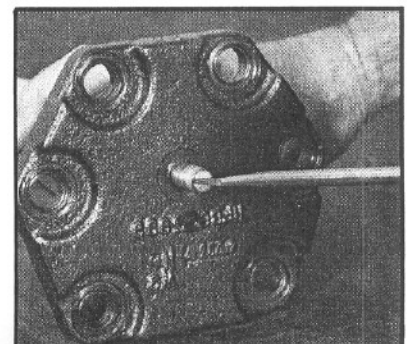

Figure 45
- 12. Screw the sector shaft adjusting screw (51) through the side cover (58) (FIG. 45). Place the side cover exterior side down and lift the sector shaft out vertically.